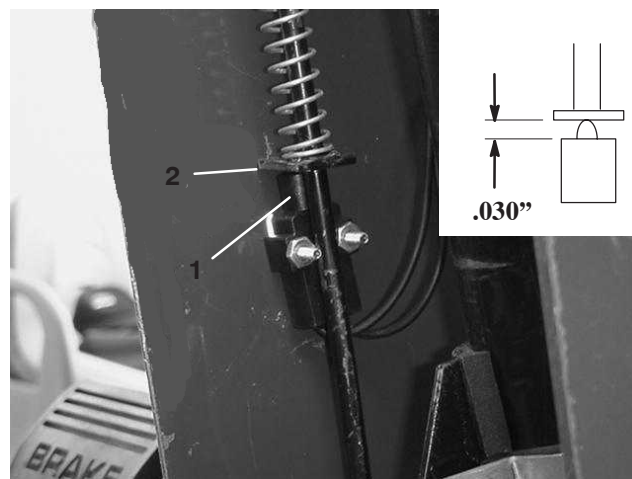

Figure 45
3. Slide cover up steering shaft to expose parking brake switch (Fig. 45).
5. Align parking brake rod paddle with switch plunger (Fig. 45)
6. Press down on parking brake rod and push up on switch until compressed length of switch plunger is .030" (Fig. 45, inset) . This the distance between the brake rod paddle and switch plunger housing.